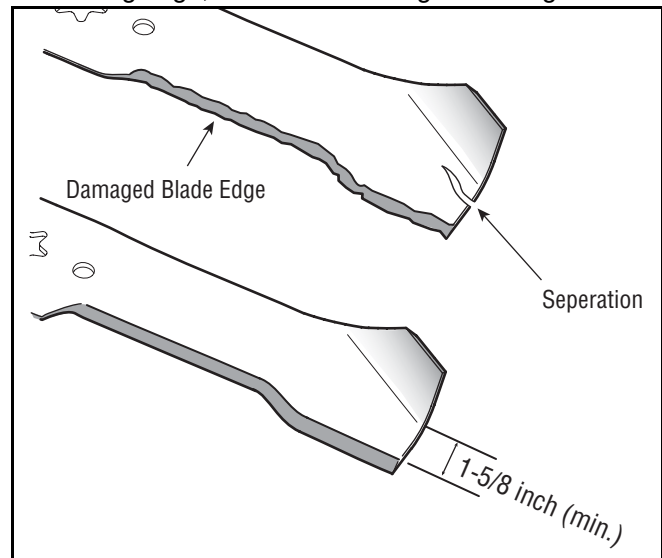

Figure 15
- To properly sharpen the cutting blades, remove equal amounts of metal from both ends of the blades along the cutting edges, parallel to the trailing edge, at a 25° to 30° angle. See Figure 15.